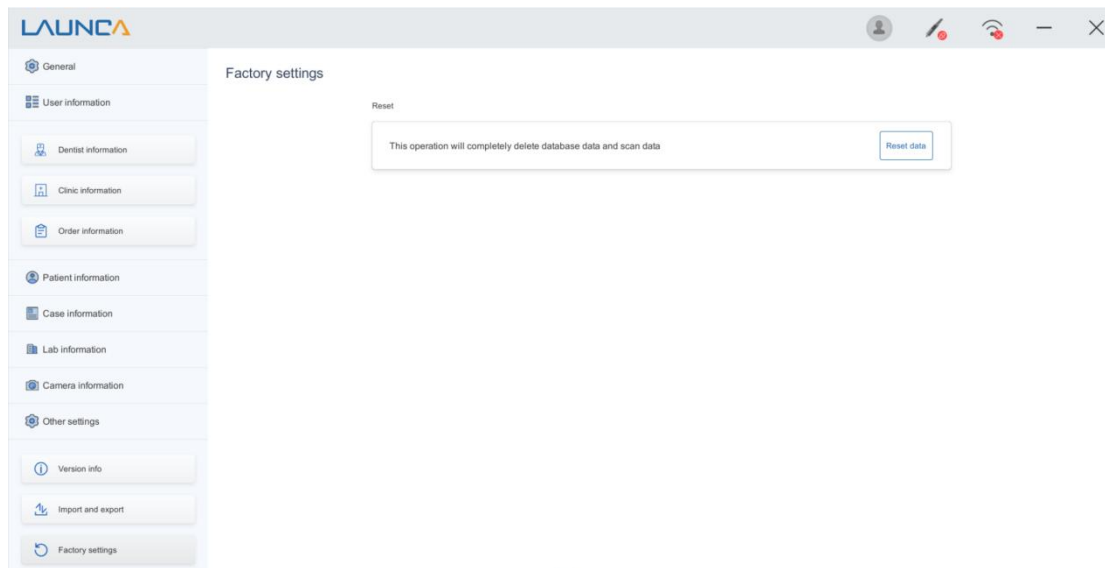

Fig. 3-20
**Factory settings:** This is factory reset, this operation will completely delete database data, as shown in Fig. 3-20.